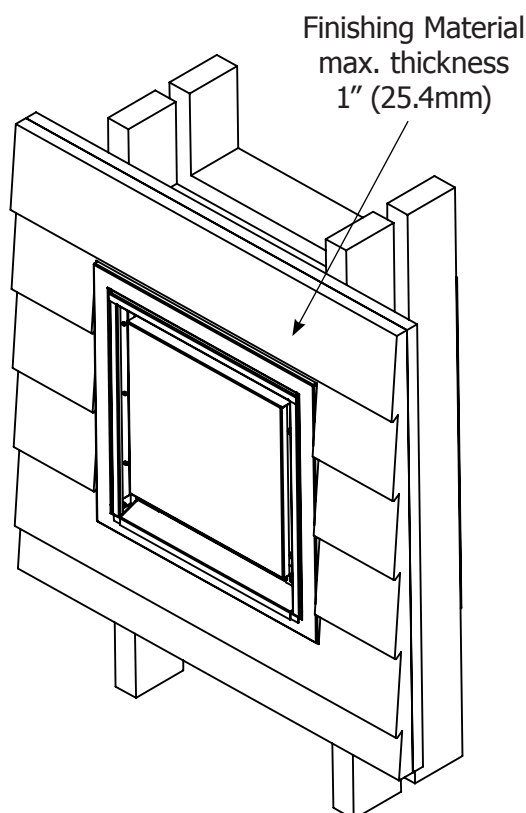

Figure 14: Finishing Material
12. The exterior wall finishing material can now be installed around the power vent terminal. The finishing material can butt up against the perimeter of the finishing face but the thickness cannot exceed 1" (25.4mm). Refer to Figure 14.